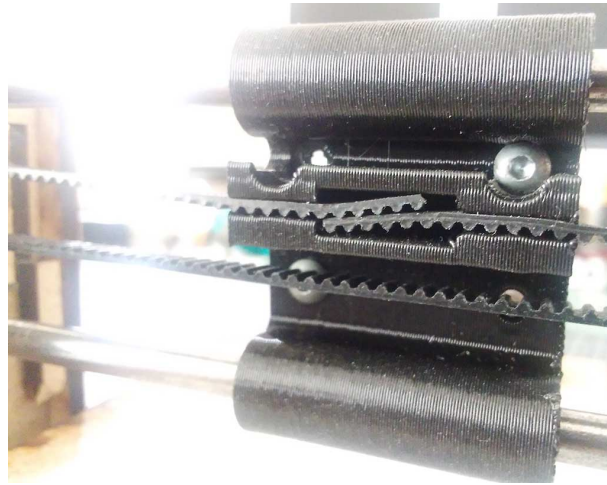

Figure 5.2: Mounting the timing belt to the pen holder assembly.
3. The wedding: Mount the motors to the mechanical assembly but do NOT power them up. Set up the belt loops by pinching the ends of the belts in the emplacements on the 3D-printed parts (see Figure 5.2). If the loose ends of the belt moving the pen holder do not fit in the hole prepared for them, you may trim the belt a little, but only as much as absolutely necessary. Do not cut too much!!